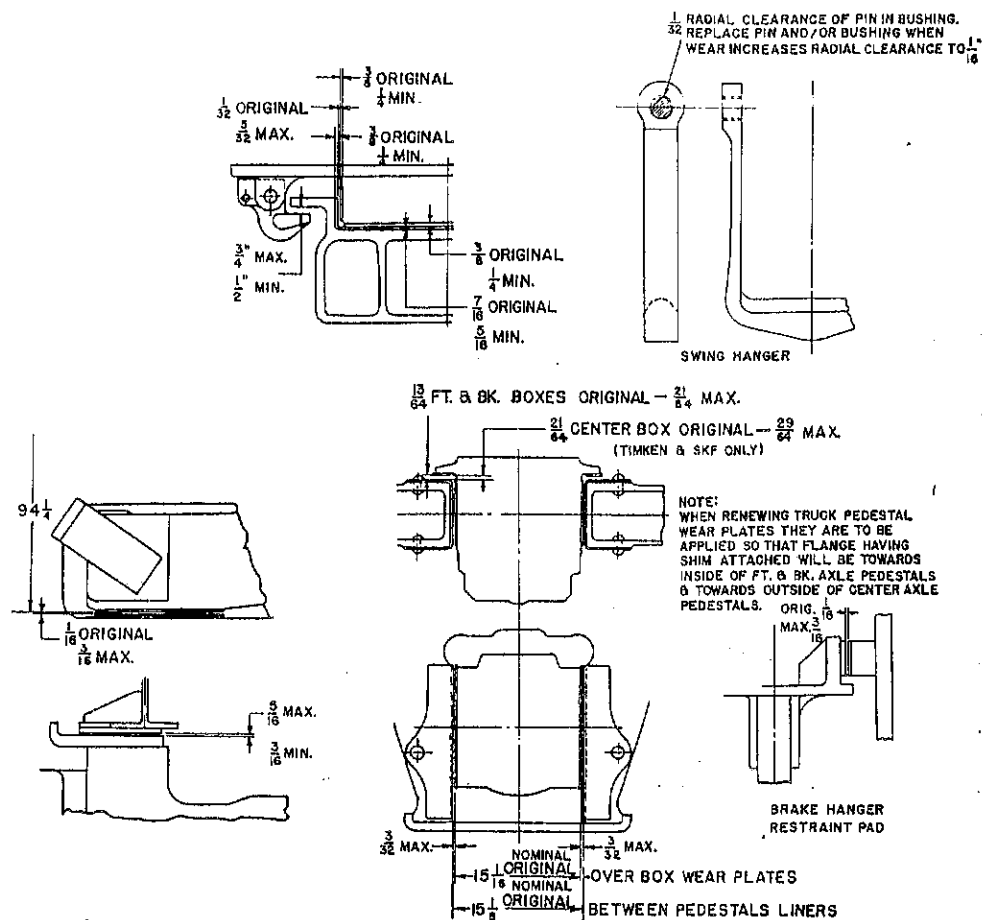

Fig. 2 - CLEARANCES AND WEAR LIMITS
1. The following items should be inspected and compared with Fig. 2 for clearance and wear limits.